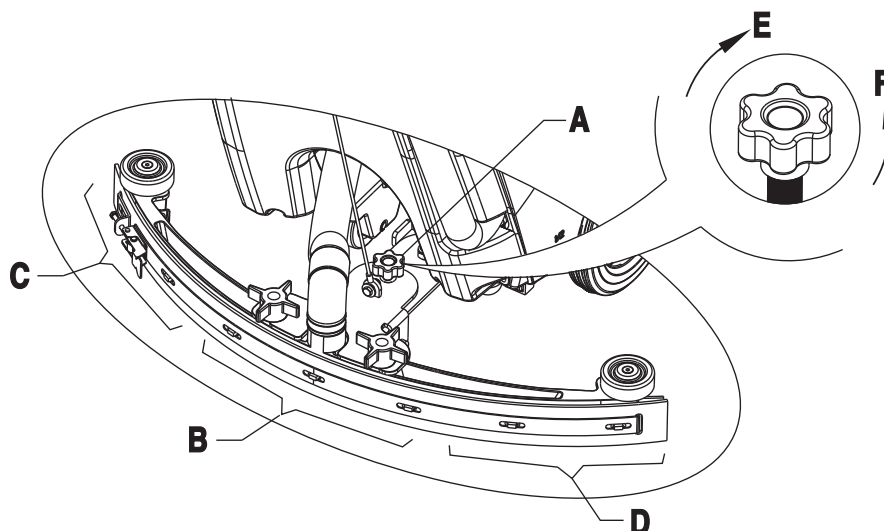

FIGURE 9
8. Adjust the squeegee through the adjusting handle (A) of the squeegee (Figure 9).